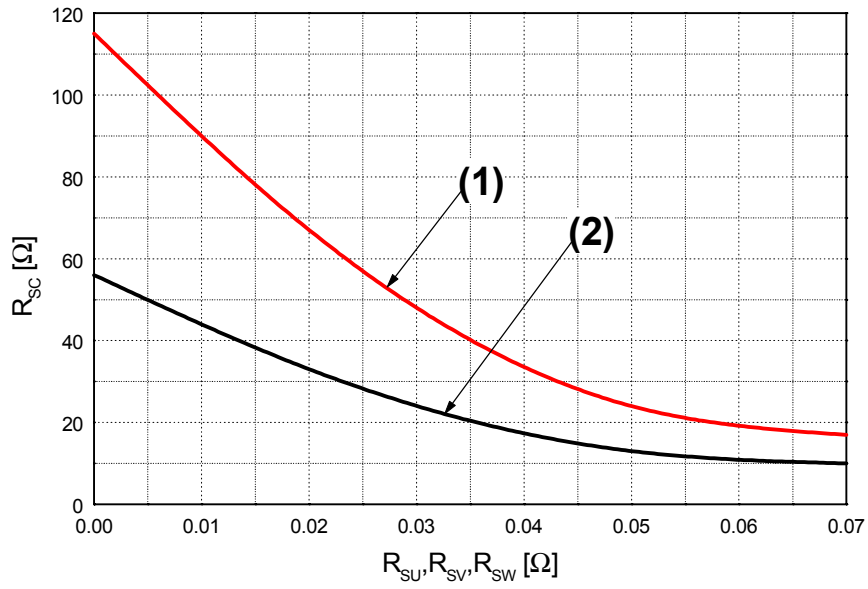

Fig. 6. R_{sc} Variation by change of Shunt Resistors (R_{su}, R_{sv}, R_{sw}) for Short-Circuit Protection
- Short-circuit current protection is functioning only at the low-sides. It would be recommended that the value of the external sensing resistor (R_{SC}) should be selected around 56 Ω in order to make the SC trip-level of about 30A at the shunt resistors (R_{SU}, R_{SV}, R_{SW}) of 0Ω. For the detailed information about the relationship between the external sensing resistor (R_{SC}) and the shunt resistors (R_{SU}, R_{SV}, R_{SW}), please see Fig. 6.